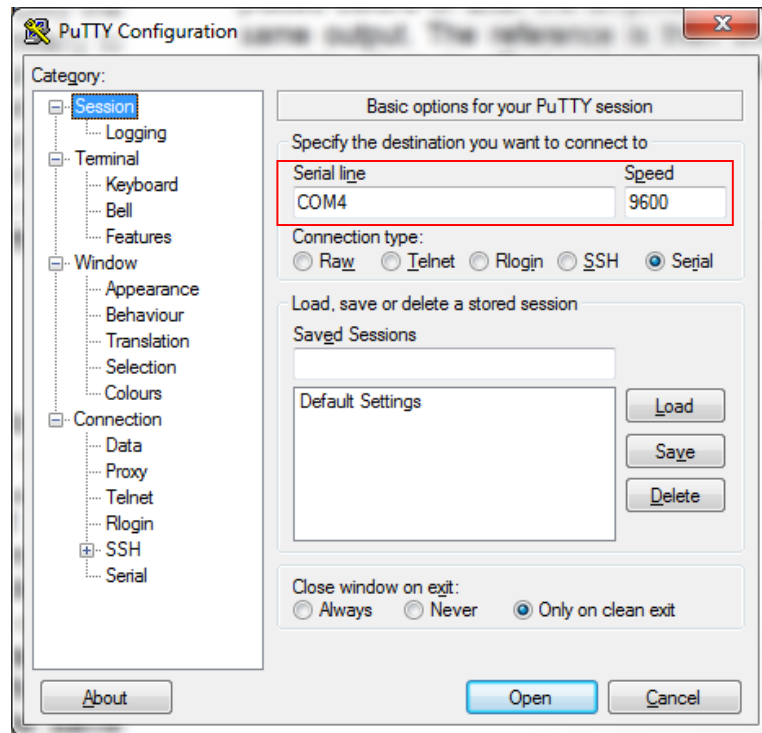

Figure 2. Putty window
4. Open a terminal emulation software such as 'PuTTY' and open the COM (Serial) port number identified in previous step. Ensure that the speed is set to 9600 bps. See Figure 2.